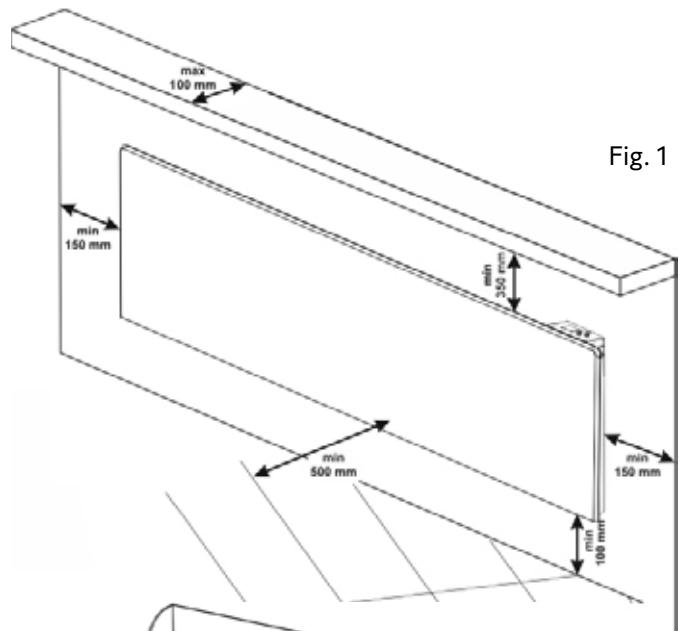
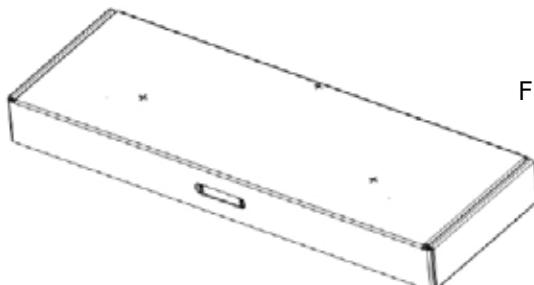
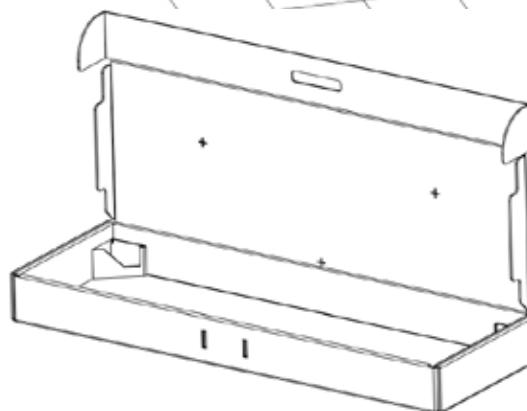

Fig. 1
Fig. 2
Fig. 3
- Select the location and mark up its three points for drilling, then drill using an Ø 6 mm drill bit at the marked places on the wall. (Fig. 1). As an aid, use the prepared holes in the packaging, marked + (Fig. 2).
- Select the position on the wall according to the dimensions stated in Figure 1. Open the box and place it against the wall (Fig. 3). Then transfer the marked holes to the wall.